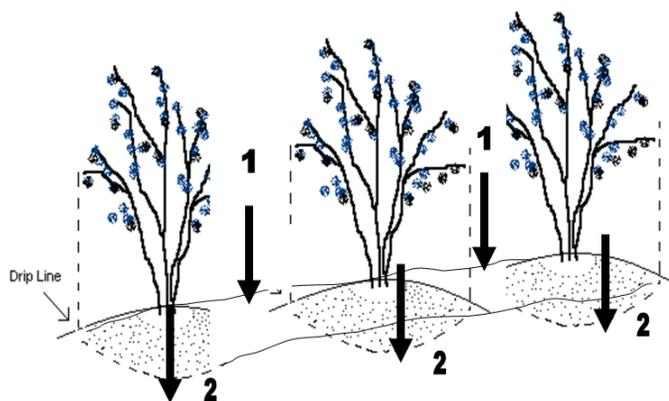

Figure 3. Sampling locations for blueberries
Blueberries: take pairs of samples (1) and (2) (**Figure 3**):